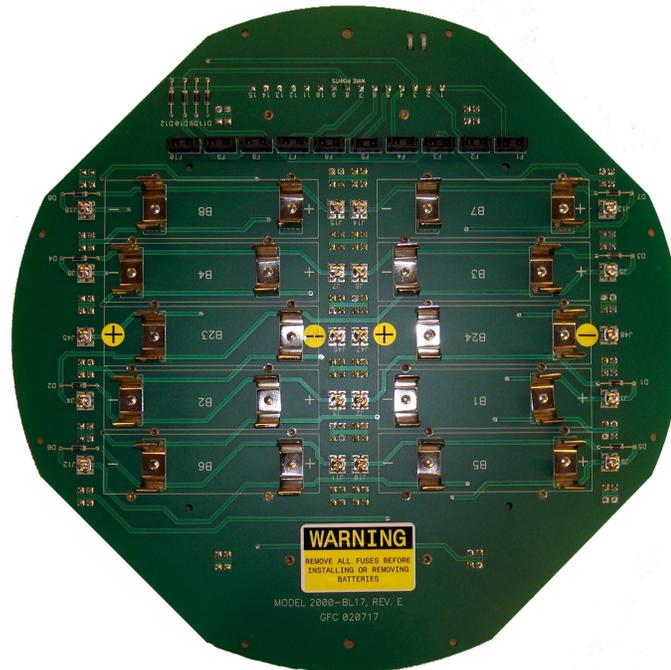

Figure 3-2 Corrective Polarity & Warning Labels on Model 2000-BL17 Battery Tray
- *Due to an error in circuit board labeling, the model 2000-BL17 battery tray requires stick-on polarity corrective labels as shown in Figure 3-2. Without these labels cells B23 and B24 will get installed backwards and will not contribute to the energy capacity.*